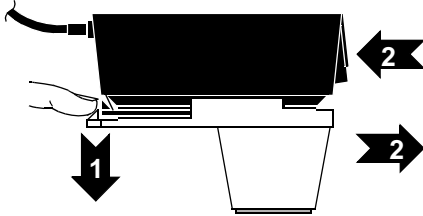

Figure 5-10 Removing a Pediatric Paddle
- 2 Slide the pediatric paddle off (see Figure 5-10).